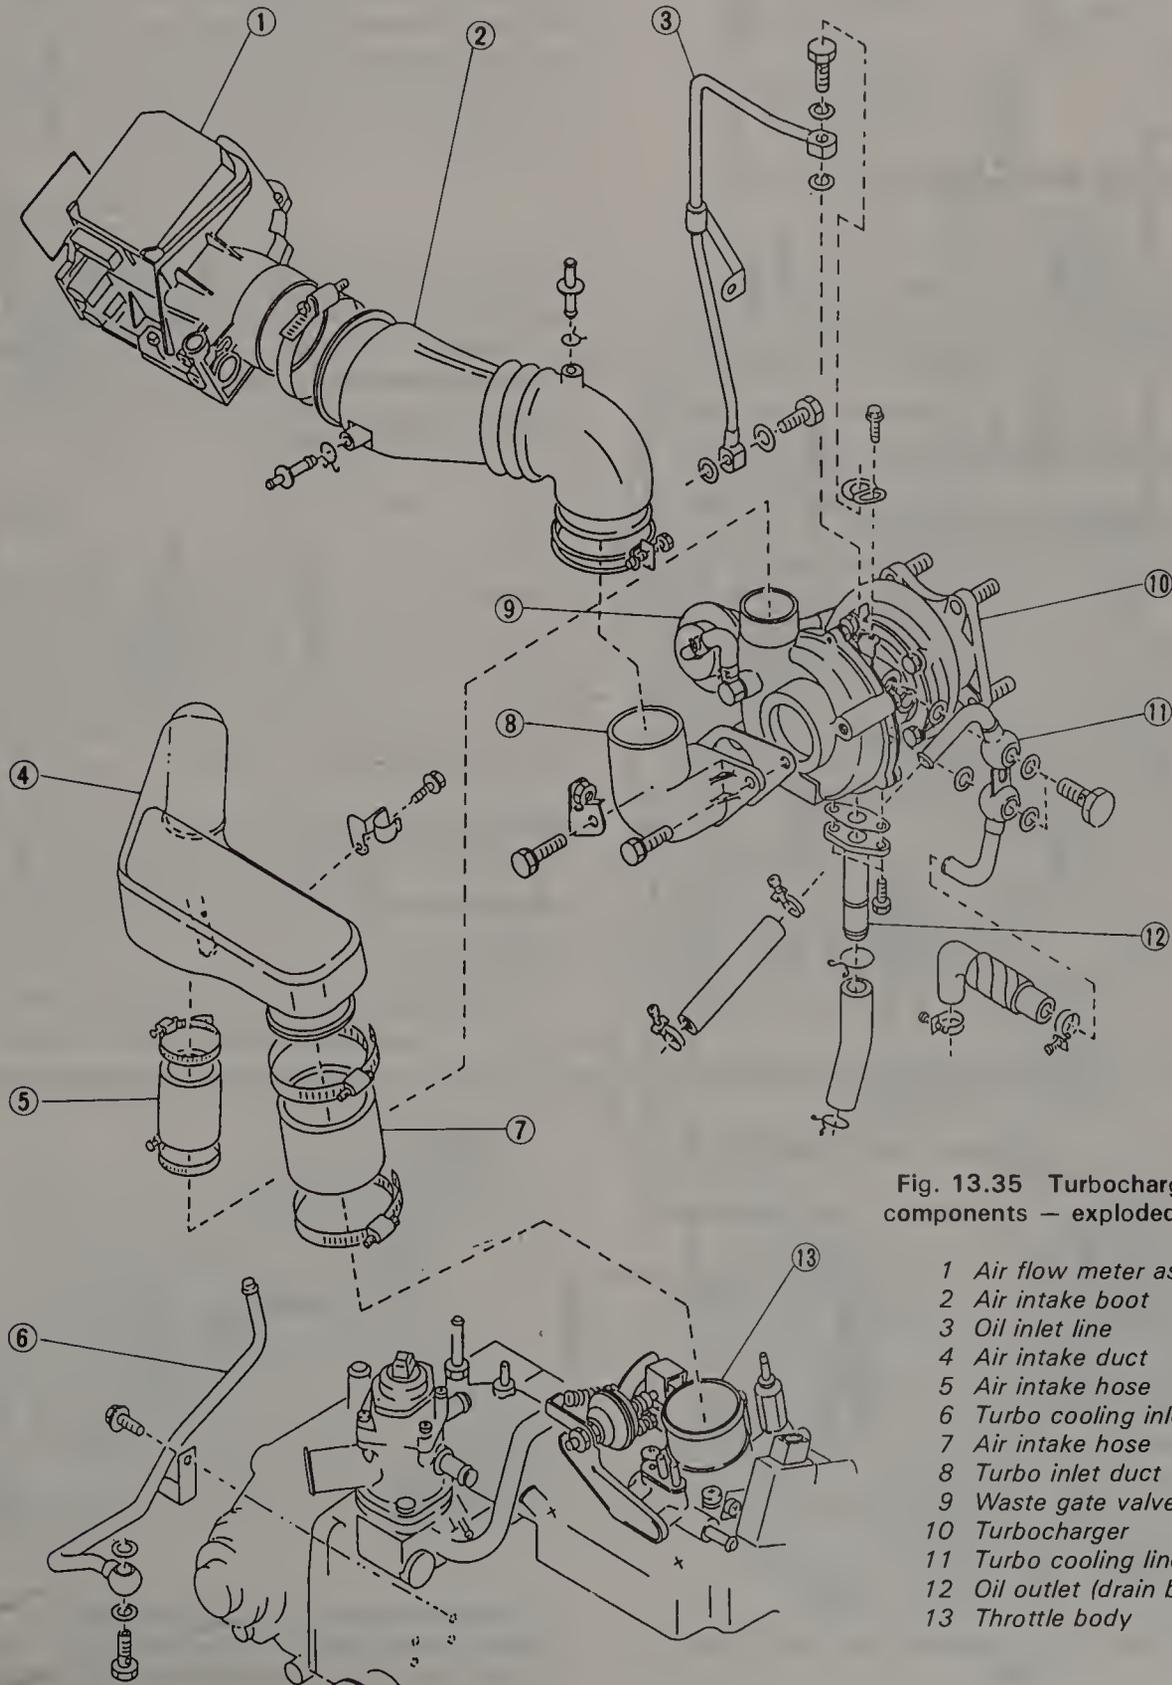

Fig. 13.35 Turbocharger assembly components — exploded view (Sec 7)
- 6 Remove the air intake boot and the turbo inlet duct (see Fig. 13.35). Reach inside the housing and spin the turbine compressor impeller to make sure it turns freely. If it does not, this could be a sign that the